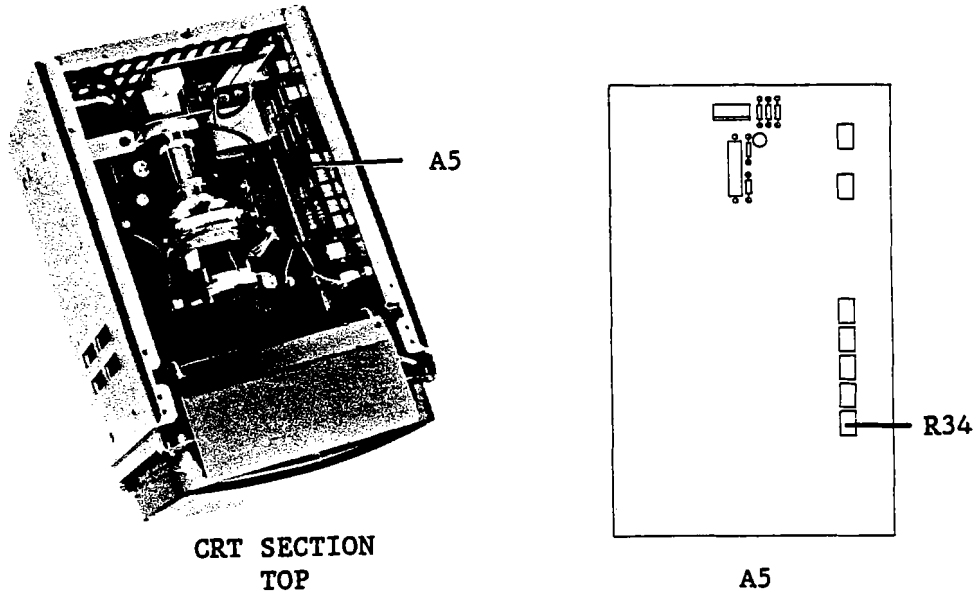

Figure 3-26. Maximum Intensity Adjustment Locations
1. Turn A5R34 (INT-LIM) fully clockwise (CW), and turn the INTENSITY control fully clockwise (CW). See Figure 3-26 for A5R34's location.